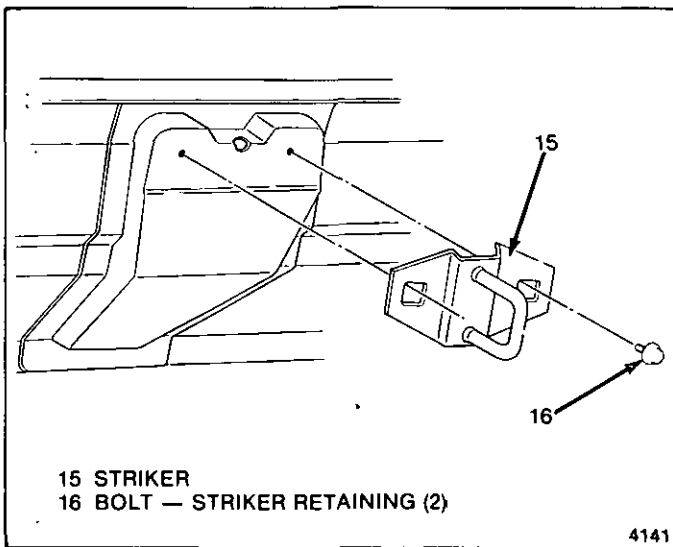

Fig. 7-Rear Compartment Lid Striker
**←→ Remove or Disconnect (Figure 7)**
1. Bolts (16)
2. Striker (15)
**↔ Install or Connect (Figure 7)**
1. Striker (15)